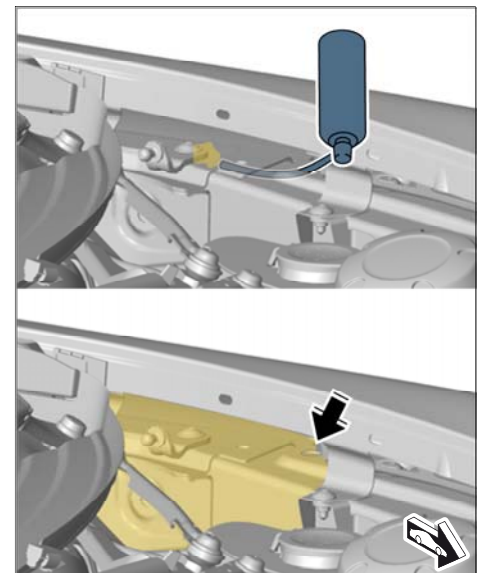

Figure 39
- 11.1 Guide spray pipe of foam can through the opening on the longitudinal member for the wheel housing upper section ⇒ *Figure 39 -arrow-* as far as possible towards the A-pillar.